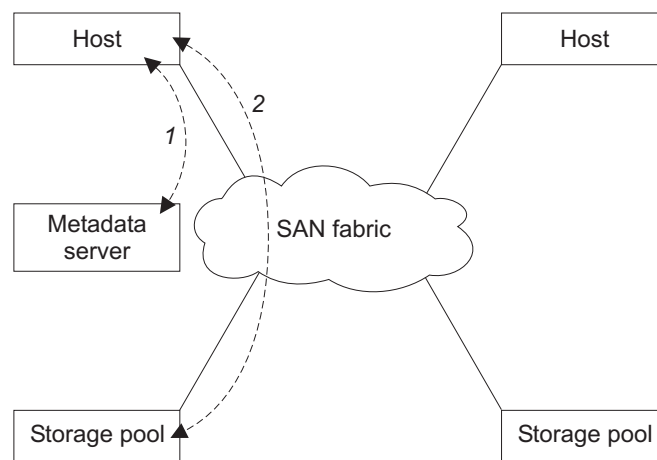

Figure 5. Asymmetrical virtualization
In asymmetric virtual storage networks, the data flow, (2) in the Figure 5 on page 8, is separated from the control flow, (1). A separate network or SAN link is used for control purposes. The metadata server contains all the mapping and locking tables while the storage devices contain only data. Because the flow of control is separated from the flow of data, I/O operations can use the full bandwidth of the